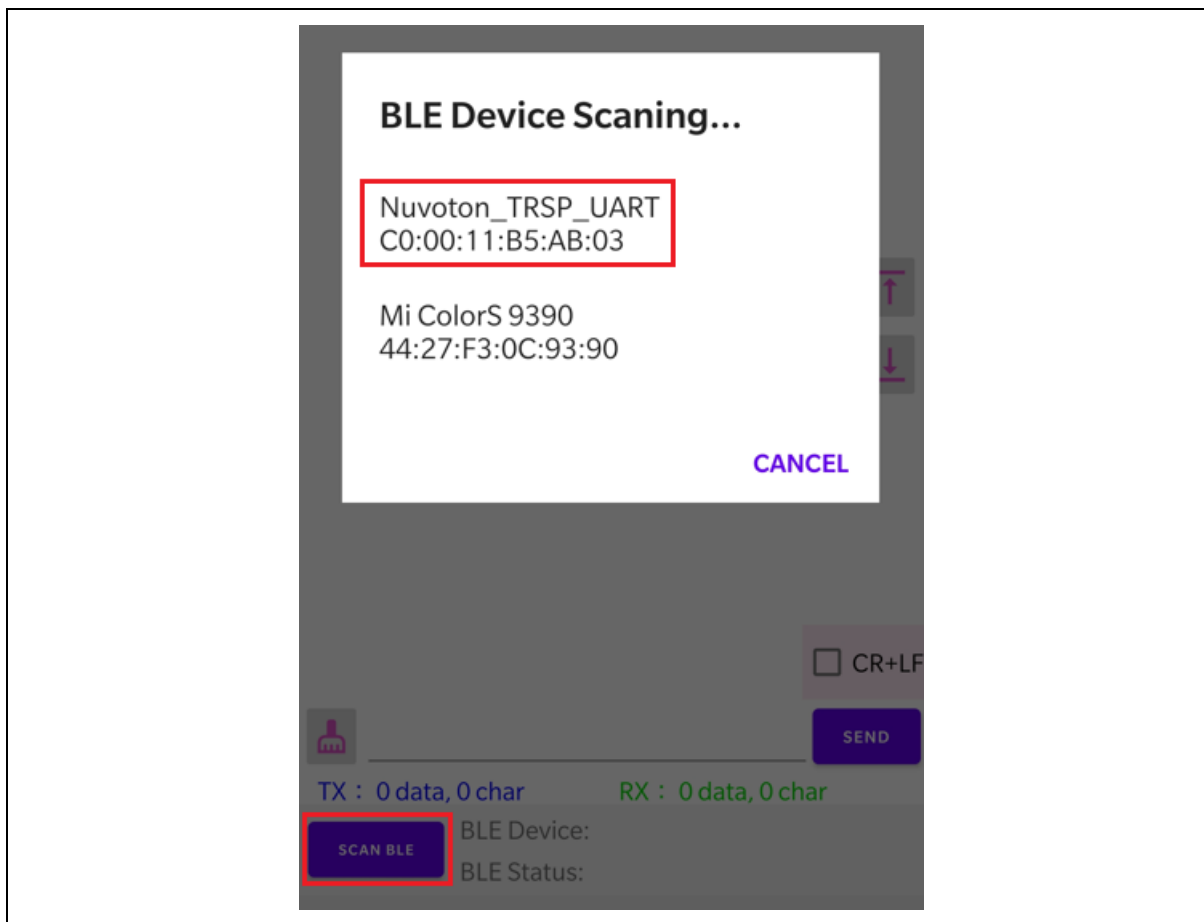

Figure 4-2 NuBLE TRSP\_UART Main Screen
2. Open NuBLE App. You can find an “SCAN BLE” icon at bottom-left, as shown in Figure 4-2. Click the icon, and you will see the “Nuvoton\_UART” device in the scan list. Clicking it can connect to the device.